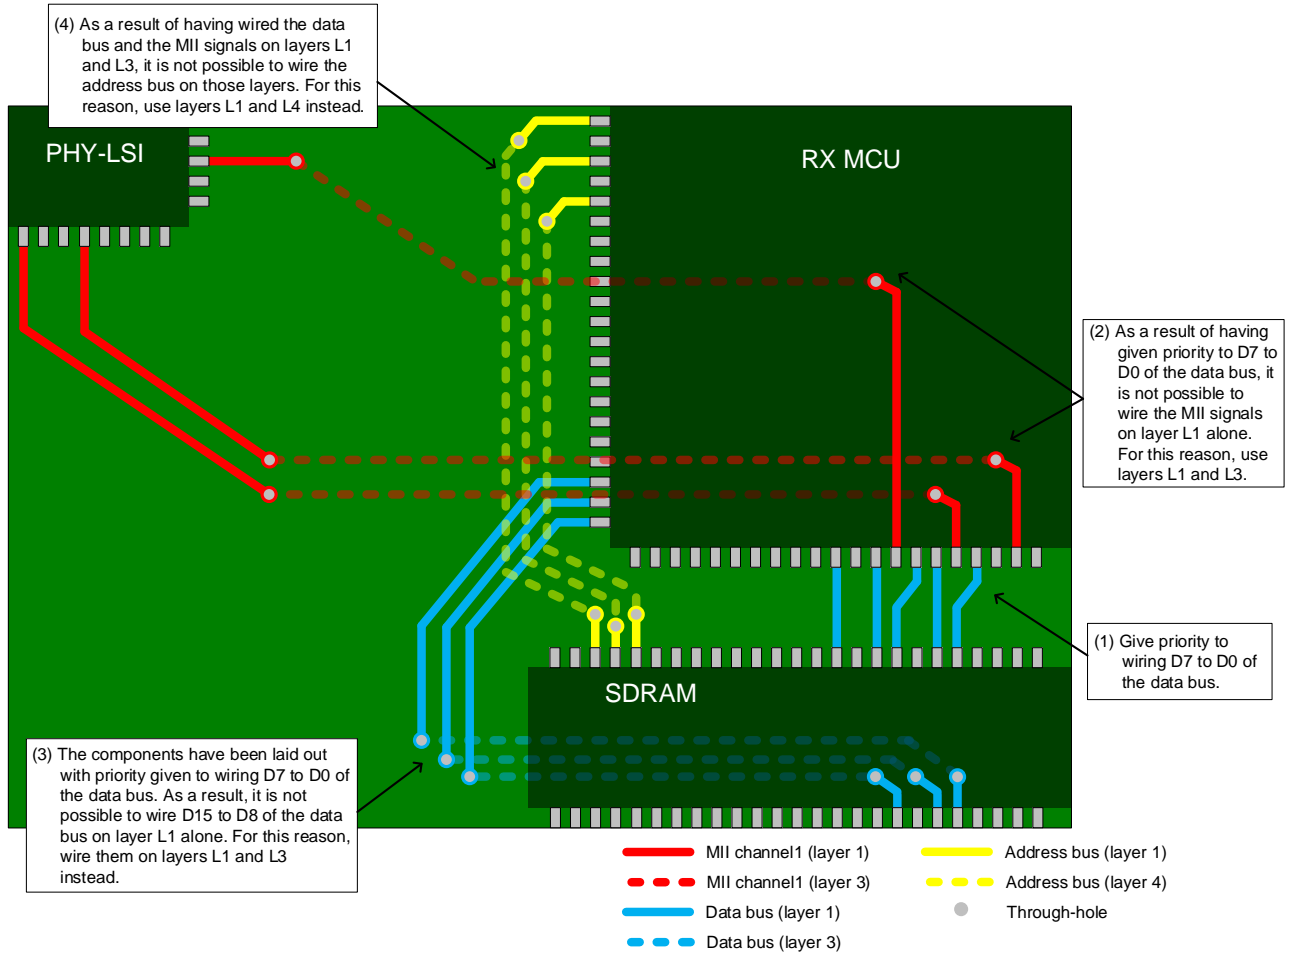

Figure 2 Pattern Layout Image (Transparency Diagram from Perspective of Layer L1)
1. Give priority to wiring D7 to D0 (particularly D5 and D6) of the data bus of the SDRAM on layer L1, and to making it as short as possible. (See (1) in Figure 2.)
3. As a result of having given priority to D7 to D0 of the data bus of the SDRAM, it will not be possible to wire the MII signals (particularly ET1_RX_CLK) on layer L1 alone. For this reason, wire it on layers L1 and L3 instead. Note that when layer L3 is used, the return current can readily return since the ground layer (layer L2) is immediately above. (See (2) in Figure 2.)
4. The components have been laid out with priority given to wiring D7 to D0 of the data bus of the SDRAM. As a result, it will not be possible to wire D15 to D8 of the data bus on layer L1 alone. For this reason, wire it on layers L1 and L3 instead. Note that when layer L3 is used, the return current can readily return since the ground layer (layer L2) is immediately above. (See (3) in Figure 2.)
5. As a result of having wired the SDRAM data bus and the MII signals on layers L1 and L3, it will not be possible to wire the SDRAM address bus on those layers. For this reason, wire it on layers L1 and L4 instead. (See (4) in Figure 2.)